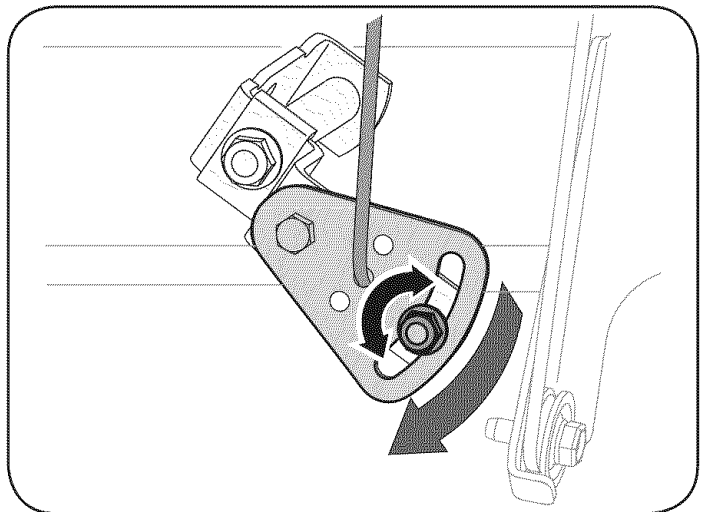

Figure 18
2. Loosen the hex nut on the shift cable index bracket. See Figure 18.